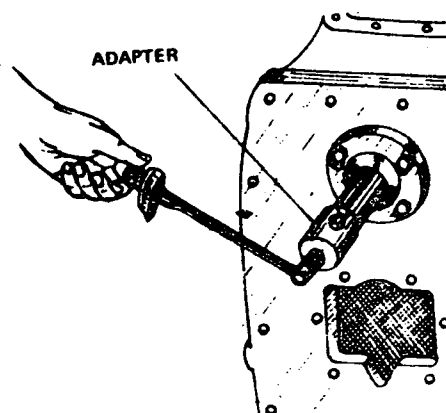

Fig. 3
- a) Place a torque wrench or a dynamometer on the end of the drive pinion (Fig. 3).